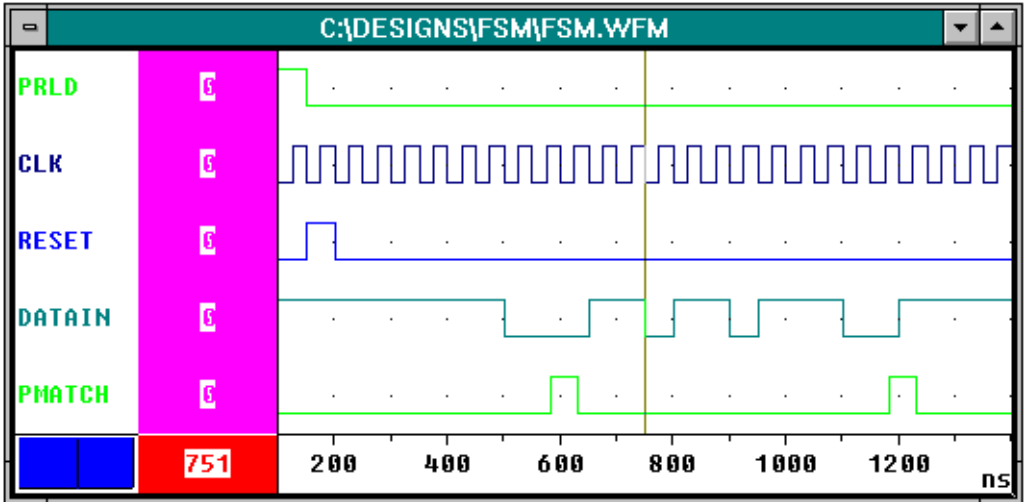

Figure 2-16 Simulation Waveforms for the FSM Design
9. Select the **PROwave** button in PROflow. The PROwave Setup dialog box appears as in Figure 2-16: